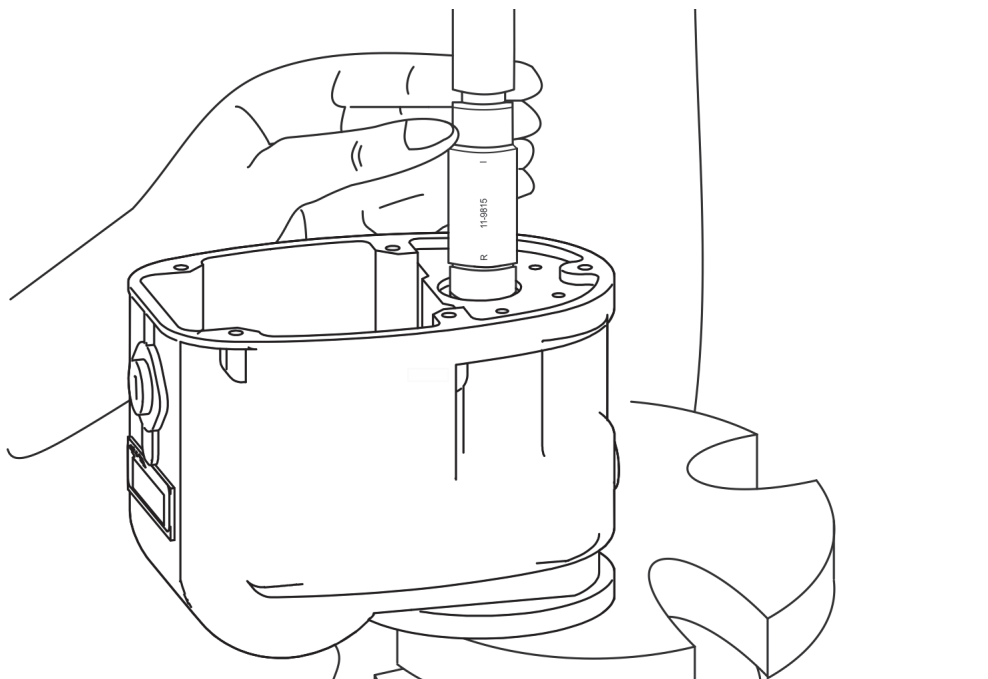

Figure 4-4. Pressing Roller Bearing Out of Housing
1. Remove the ventilator (64) and orifice (65) or plug (66) from the housing (72).
2. Remove the hex plug (73) and bushing (69) or timing plug (68) from the housing (72).
3. Place the magneto housing (72) on the base plate of an arbor press with the drive end down. Using the “R” (for “Remove”) end of the 11-9815 Drift, press out the roller bearing (63) (Figure 4-4) and discard.